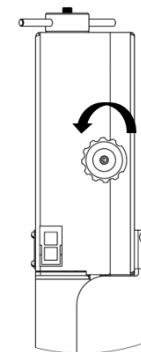

FIG. 4
4.- Close the door and turn the knob (fig. 4).